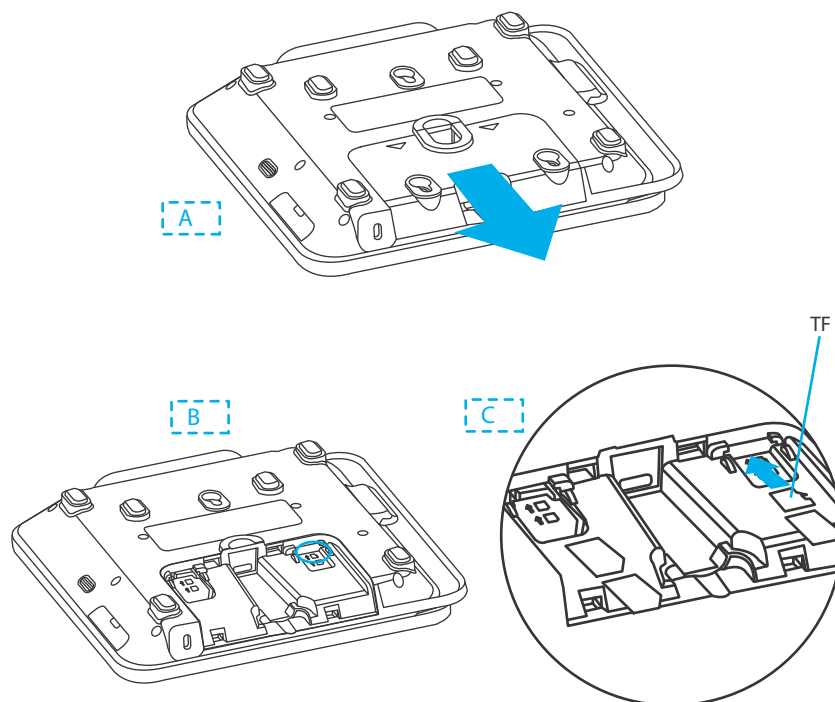

Figure 8 **Micro SD Insertion**
- 4 Insert the SD card. Carefully slide the card into the slot until fully inserted. The correct orientation of the SD card is as indicated in the Figure 8.